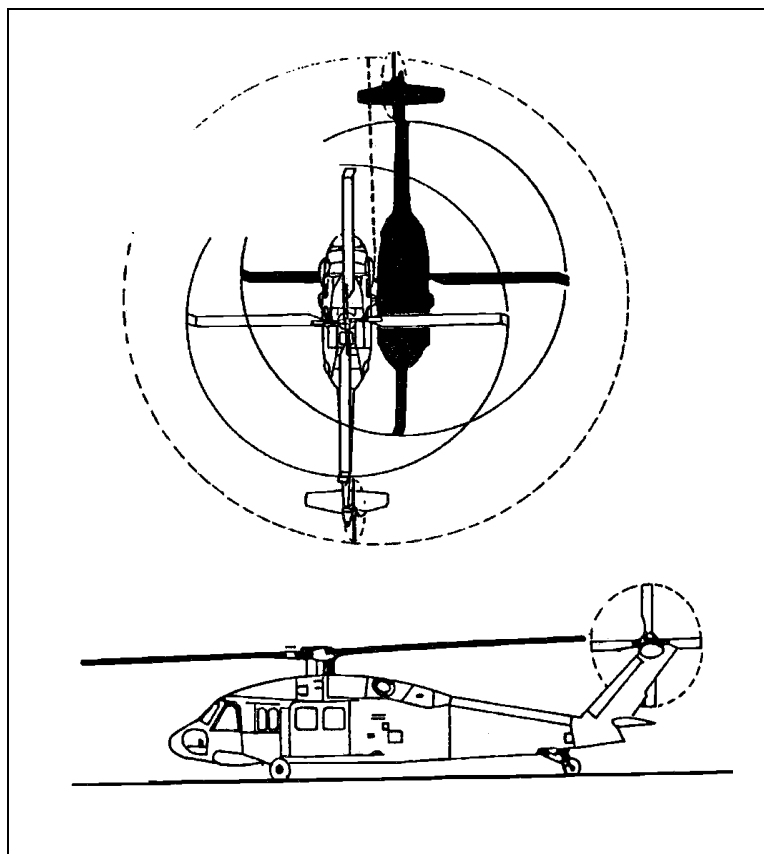

Figure B-6. UH-60A (Blackhawk).
b. **UH-60A Blackhawk.** Table B-6 shows specifications for the UH-60A Blackhawk; Figure B-6 shows the aircraft from above and from the left side: